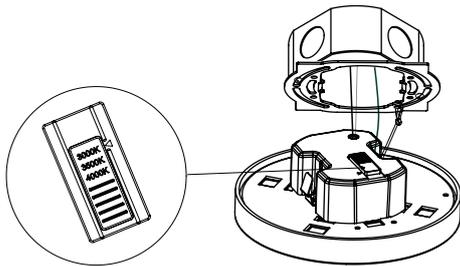

fig. 4
5. Adjust the color temperature to desired one, by sliding the orange selector switch. Make sure the switch is never in between positions. (fig. 4)